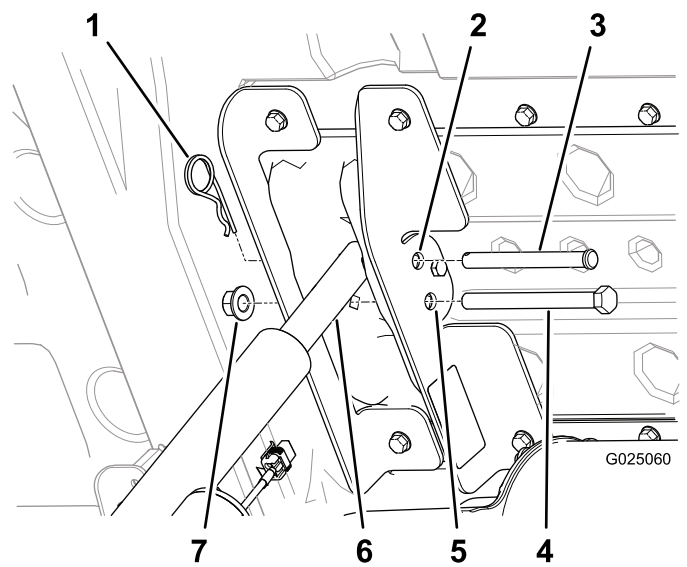

Figure 12
- Press the upper paddle of the bed-lift switch to extend the rod of the lift actuator rod until the hole in the rod aligns with the holes in the inner and outer bed brackets (Figure 12).
- Secure the lift-actuator rod between the bed brackets with the clevis pin (3-1/2 inch) and the hairpin (Figure 12).
- Align the hex-head bolt (1/2 x 5-1/2 inch) through the remaining 12.7 mm (1/2 inch) holes in the inner and outer bed brackets (Figure 12) and secure it with a nut (1/2 inch) until the flange nut is snug.